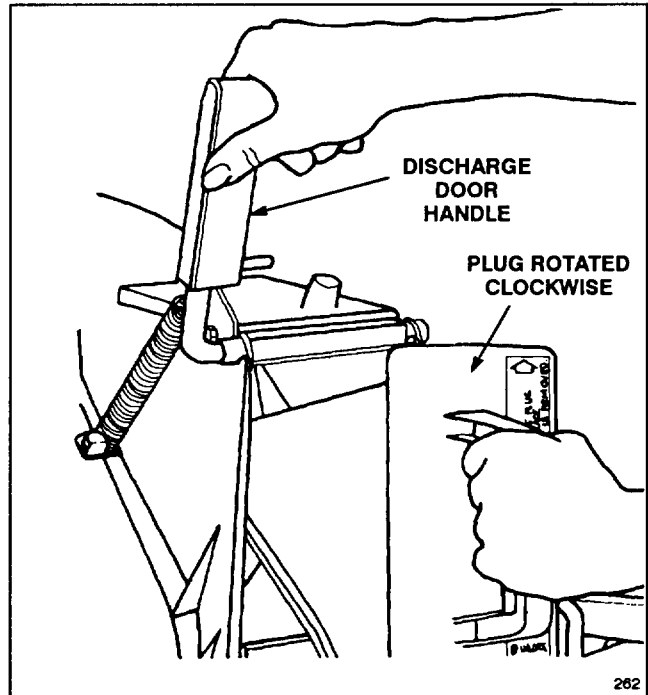

Figure 5
2. Since the plug is slightly wider than the discharge tunnel opening, rotate the plug clockwise slightly while inserting it (Fig. 5). Make sure the arrow on the plug decal is pointing upwards.
1. Open the discharge door by pulling forward on the handle and moving it rearwards (Fig. 5). Hold the